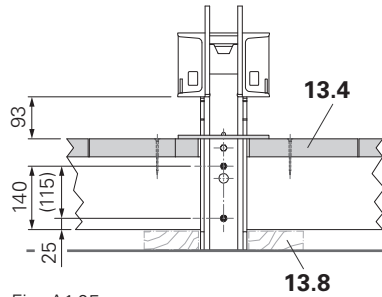

Fig. A1.05a
Fix pre-drilled timber to Crossbeam Unit using **2x F.H. Bolt M8 x 100 with Nut M8 and Washer A8** in each case. (Fig. A1.05a)
- 80 x 160 mm: see Fig. A1.05a.